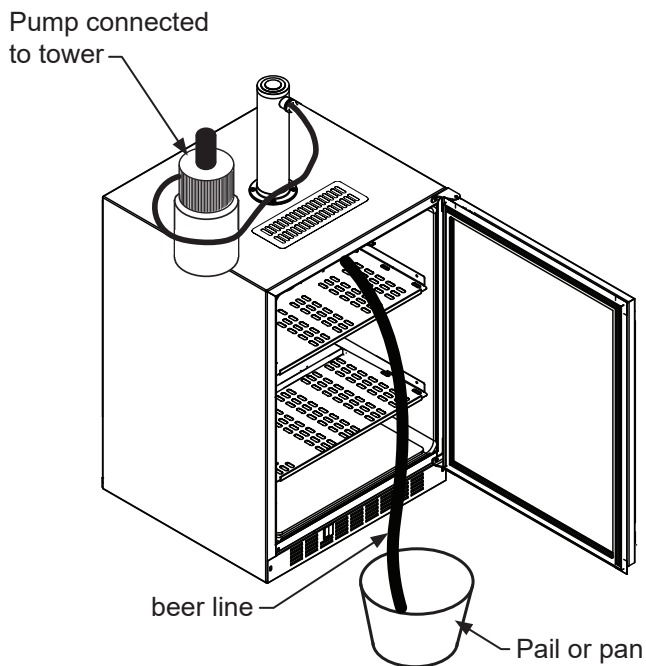

Figure 54
12. Remove the front toe-grille, (see Figure 54 and Figure 49), and use a brush and vacuum to clean dirt and debris from beneath the unit.